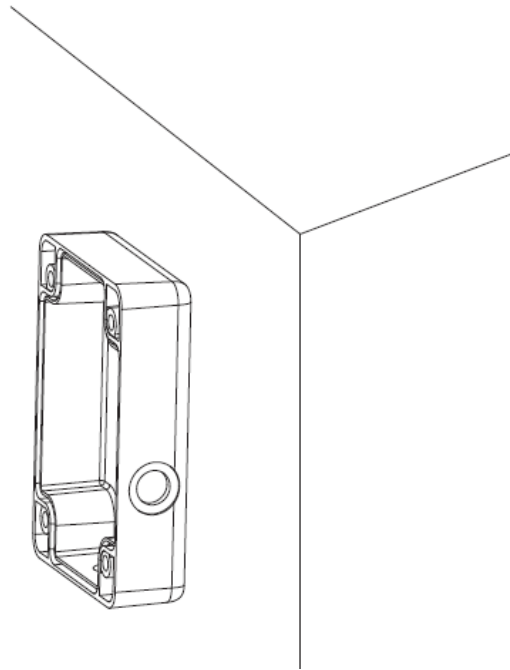

Figure 4-2
1).Please draw holes position in the wall according to the holes of the bottom of wall mount base. Then you can dig holes and insert the expansion bolts. Use four hex bolts and flat washer to fix the wall mount base in the expansion bolts. See Figure 4-2.